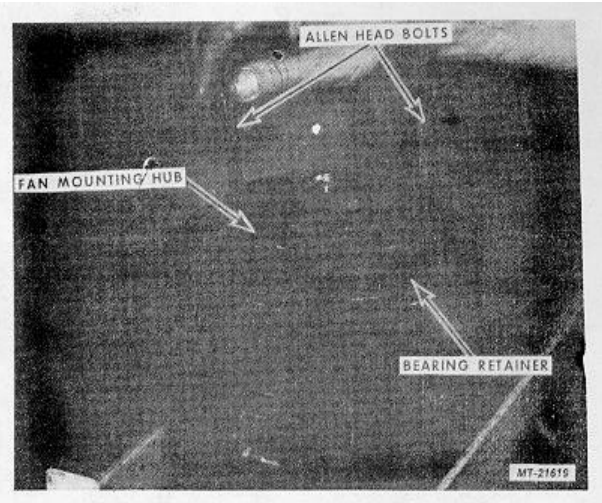

Fig. 89
52. Install Allen head bolts from the tool kit SE-2782, through two holes in the Fan Mounting Hub and tighten FINGER-TIGHT, Fig. 89. DO NOT USE A WRENCH.